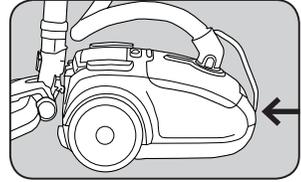

Fig. 2
2. Attach the electrical cord from the hose into the plug underneath the carry handle (Fig. 2).